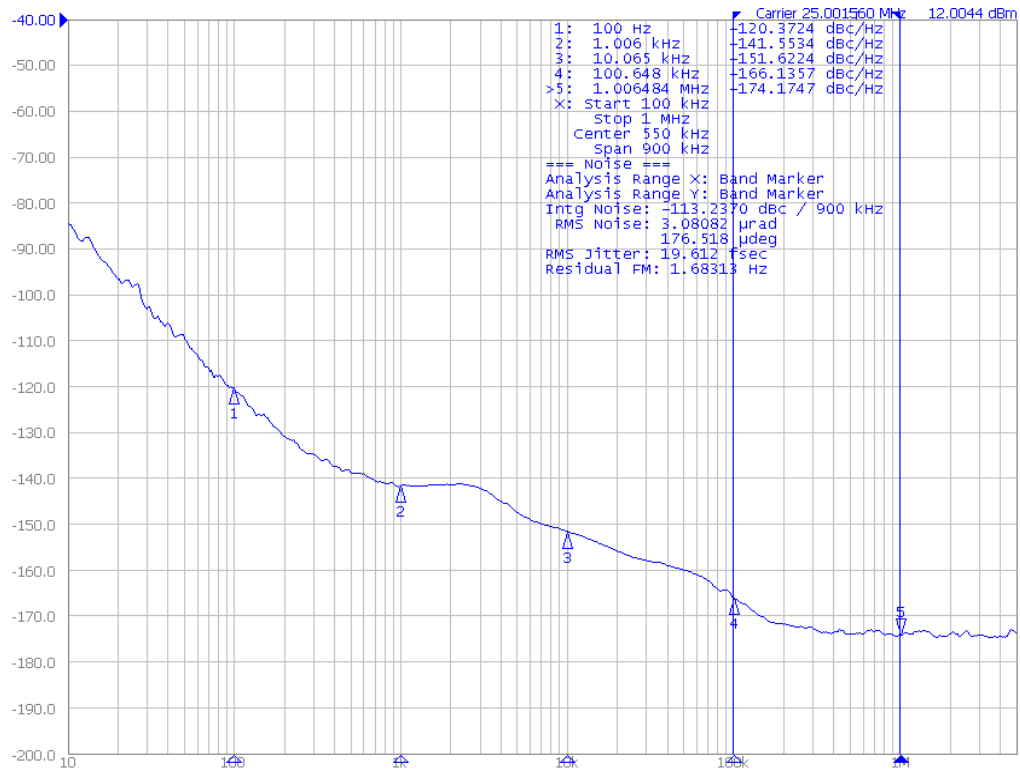

Figure 5. Typical Phase Noise Plot of the NB3H83905C Operating at 25 MHz  $V_{\text{DD}} = V_{\text{DDO}} = 3.3 \text{ V}$
4. Parallel terminated 50 Ω to VDDO/2 (see Figure 5).